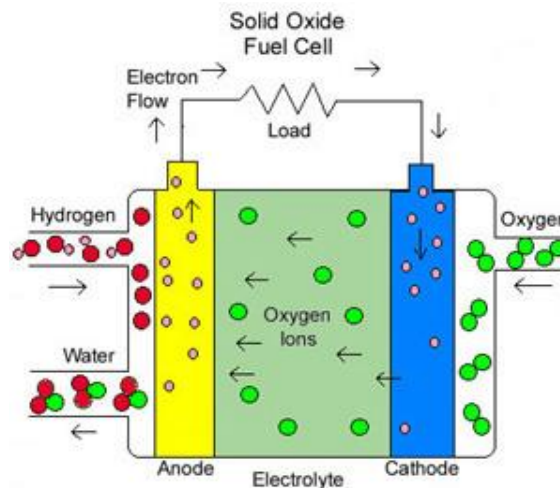

Figure 2
- (b) Figure 2 presents schematic diagram of a Solid Oxide Fuel Cell (SOFC).